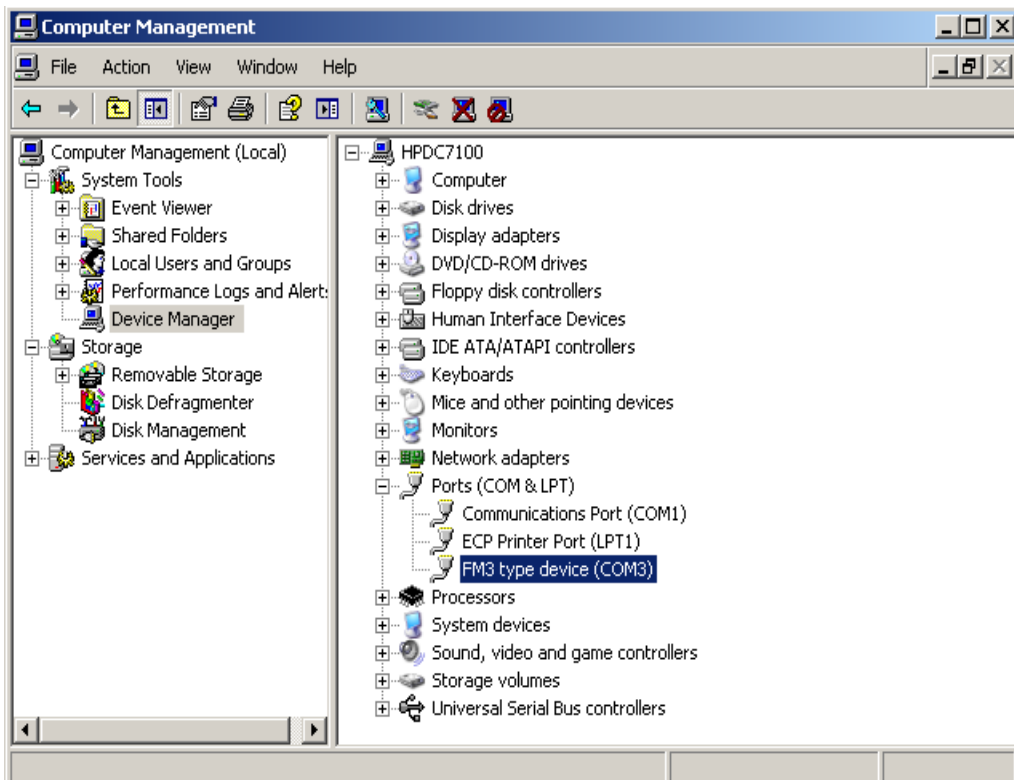

Fig. 1.3.8 Driver installation
- 8) Driver now should be completely installed and ready to use (Fig. 1.3.8).